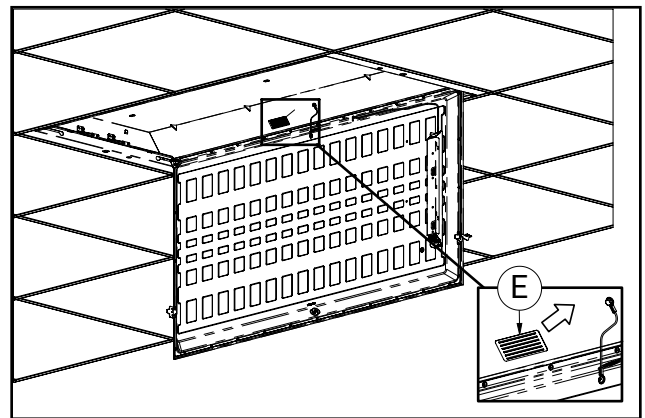

Figure 10.
10. Adhere Troffer Label (E) inside original troffer (Fig. 10).